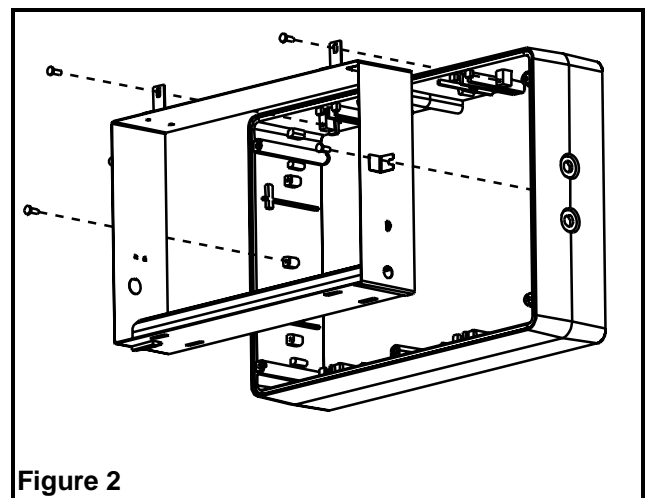

**Figure 1**
### Ceiling Mount (Figure 1)
- e. Ensure that the retaining screw is accessible (see Figure 1, Part No. 13). Use the screws from the junction box to secure the cover to the junction box.
- f. Remove the left knockout on top of the frame. Determine which holes in the frame will be used for mounting (see Figure 1). Support frame with two blocks of wood, maximum one inch apart. Strike knockouts with a hammer and screwdriver. Clear holes of burrs to allow proper assembly of nipple/wire assembly.
4. Install the lens by using the 6 tamper-proof screws. The o-ring has to be installed on the center screws between the lens and the frame as shown in figure 1.